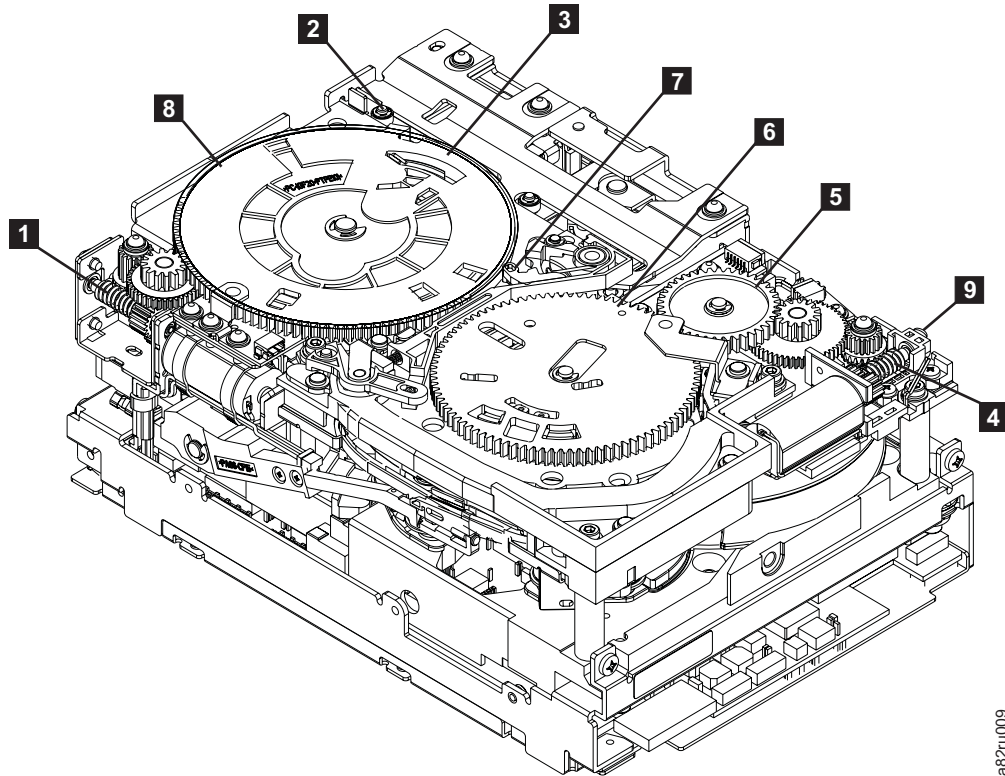
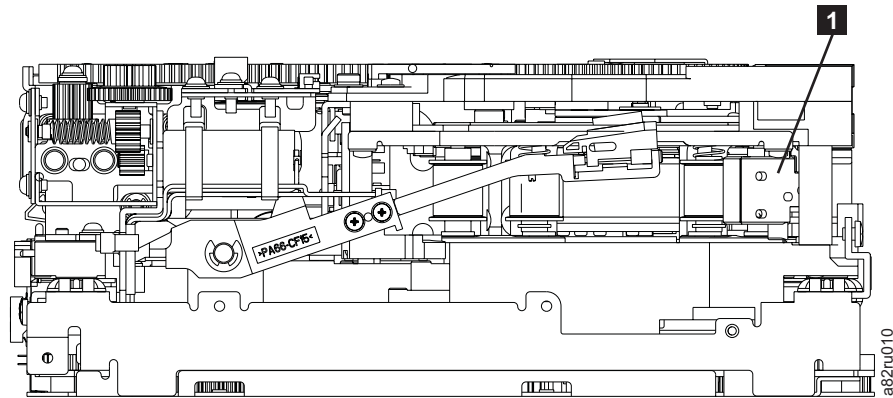

Figure 12. Drive with cover removed to reveal gear train.
Figure 13. Leader Block Assembly (LBA)
\_\_\_ Step 3. Locate the threader motor worm gear (**4** in Figure 12) the rear of the drive. You can either:
- Use your finger to rotate the threader motor worm gear and slowly rotate the threader mechanism gear (**6** in Figure 12) clockwise; or
- Use a #1 flathead screwdriver to turn the threader worm gear (**9** in Figure 12) clockwise.
This rotates the threader motor worm gear (**4** in Figure 12) clockwise, drawing the tape leader block assembly (LBA) into the cartridge.
- \_\_\_ Step 4. As the LBA is secured in the cartridge, you should hear the LBA retention spring clips click into place. If you do not hear the click, continue rolling until the threader motor worm gear ( **4** in Figure 12 on page 56) stops. The LBA is in the correct position.
- a. Loader mechanism gear ( **8** in Figure 12 on page 56) nearest the front of the drive that actuates the cartridge loader mechanism
- b. Position of the rotator stub ( **3** in Figure 12 on page 56).
- c. Front loader motor worm gear ( **1** in Figure 12 on page 56). Rotating this gear allows the loader mechanism gear ( **8** in Figure 12 on page 56) to turn.
- \_\_\_ Step 6. Rotate the loader motor worm gear ( **1** in Figure 12 on page 56) to turn the loader mechanism gear ( **6** in Figure 12 on page 56) counterclockwise. Continue turning until the rotator stub ( **3** in Figure 12 on page 56) loses contact with the lever ( **7** in Figure 12 on page 56). This releases the LBA leader pin.
- \_\_\_ Step 7. Rotate the threader motor worm gear ( **4** in Figure 12 on page 56) to turn the threader mechanism gear ( **6** in Figure 12 on page 56) counterclockwise. This moves the LBA out of the cartridge and past the read/write head. Stop this rotation when the LBA is near the tape guide roller nearest the rear of the drive ( **1** in Figure 13).
- \_\_\_ Step 8. Continue rotating the loader motor worm gear ( **1** in Figure 12 on page 56) until the rotate stub ( **3** in Figure 12 on page 56) is positioned as shown. Notice that the rotator stub ( **3** in Figure 12 on page 56) is nearly aligned with the cartridge loader tray guide bearing ( **2** in Figure 12 on page 56).